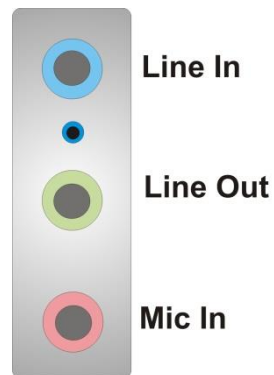

Figure 3-35: External HD Audio connector
- CN Location:** See **Figure 3-35**